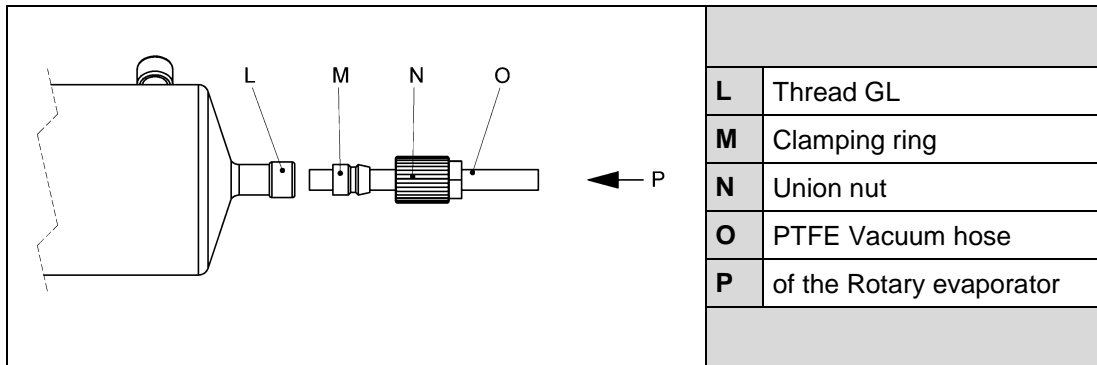

Fig. 5 Instruction for assembly of the screw connection for the suction connection (IN)
- Insert the vacuum connector of the sensor into a given GL14 port and secure with the screw cap (see figure 5).